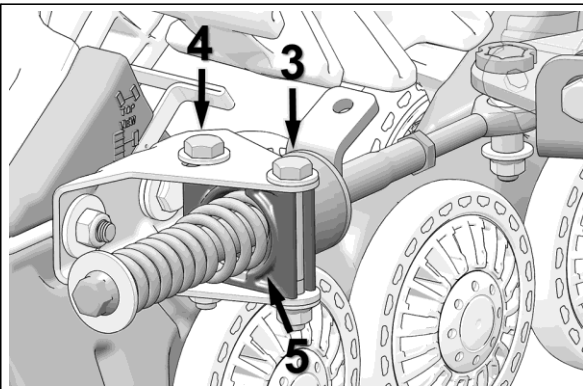

Figure 14
- Loosen anti-rotation bracket bolts (3) and (4) to allow the anti-rotation retainer (5) to rotate on its axis. See Figure 14.